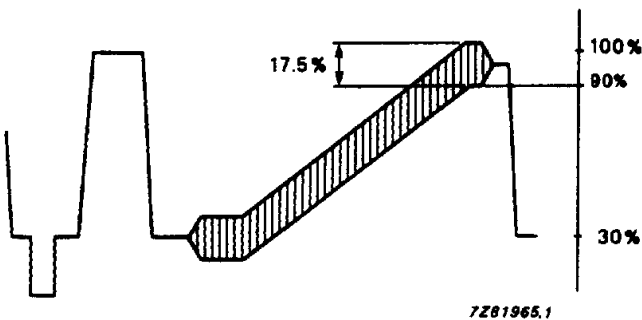

Fig.8 Video output signal.
9. Measured in accordance with the test line given in Fig.8.